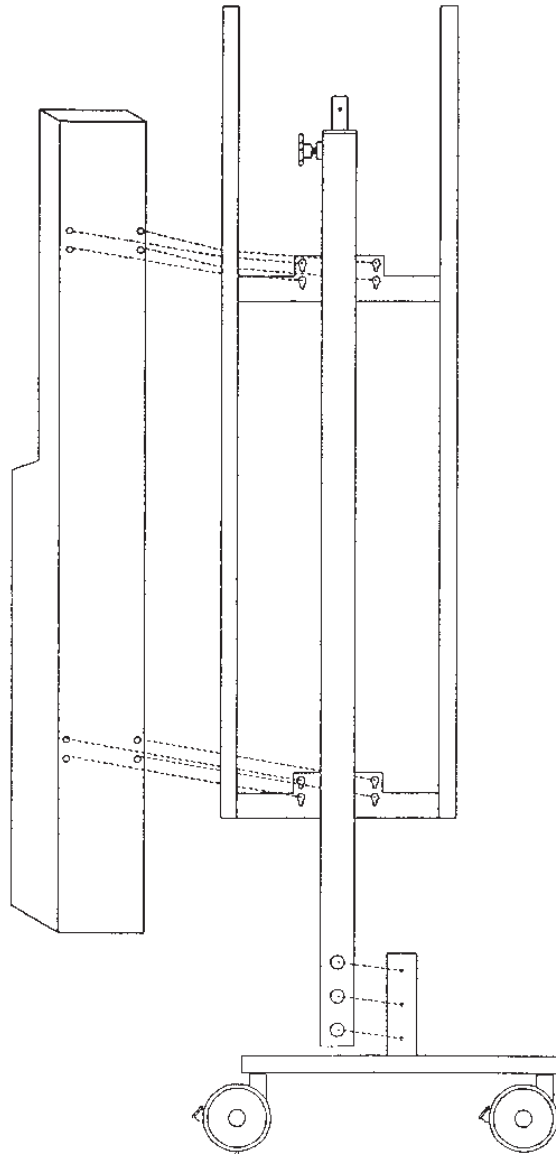

Figure 2. H-1000 assembly
2. Remove the three threaded pole screws on the vertical base tube. Slide the I.V. pole with flanking brackets down over the vertical base tube lining up the three screw holes in the pole with the three screw holes in the base as shown in Figure 2. Note: the flanking brackets should face the longer side of the base.
4. Attach the H-1000 warming unit to the flanking brackets by sliding the eight threaded screws on the back of the unit into the eight keyhole notches on the flanking I.V. pole brackets. (Refer to Figure 2.) Tighten all eight screws to secure warmer to I.V. pole and flanking brackets.